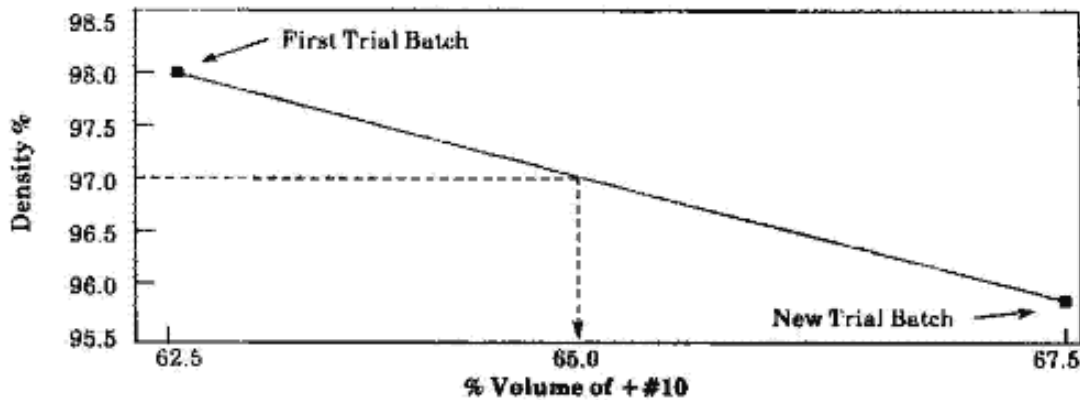

Figure 3—Density vs. Volume of #10 (Example)
- 8.6 Plot density versus volume retained on the 2.00 mm (No. 10) sieve on the same graph with the first set of molds made in Part II (See Figure 3 for example).